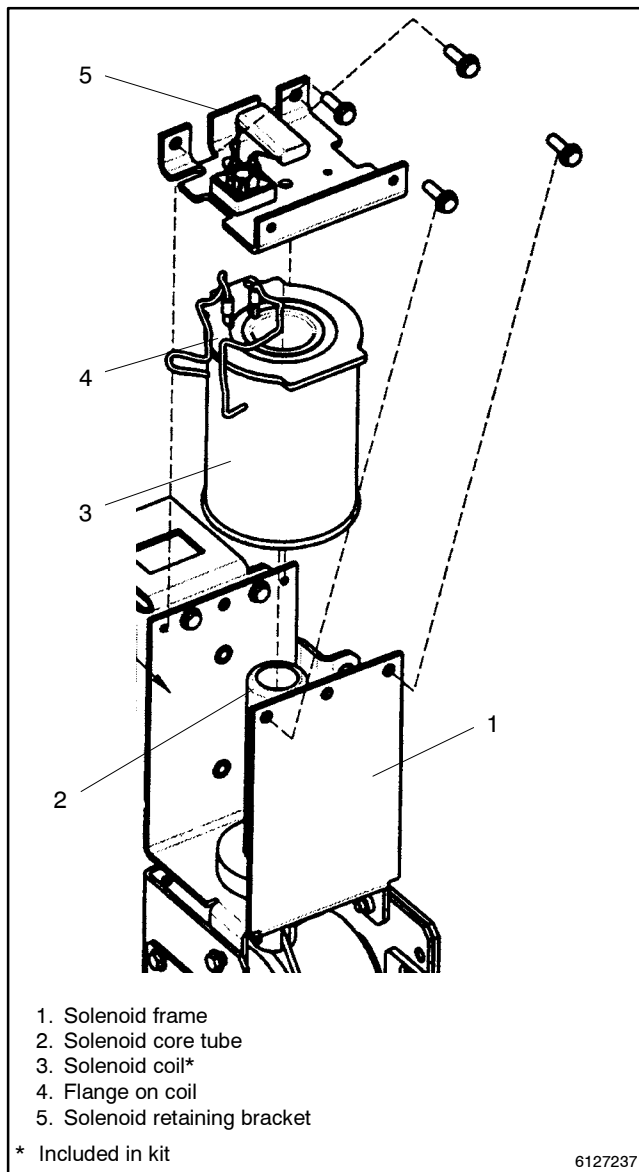

Figure 8-21 Solenoid Coil
2. Remove solenoid retaining bracket and coil. Use a 3/8 in. socket, open-end, or box wrench to remove the four SEMS screws from the solenoid retaining bracket. Then remove the bracket from the top of the solenoid. Remove the solenoid coil by pulling it upward (off the core tube) and out of the frame. See Figure 8-21.
3. Install the new solenoid coil. Position the new replacement coil so that the flange end is on top and the coil leads are on the left side. Install the coil (in this position) into the frame by pushing it downward (onto the core tube) and into the frame. Secure the coil by reinstalling the solenoid retaining bracket. Use a 3/8 in. socket, open-end, or box wrench to install four SEMS screws. Tighten the screws to 7.5 Nm (5.5 ft. lb. or 66 in. lb.) torque. See Figure 8-21.